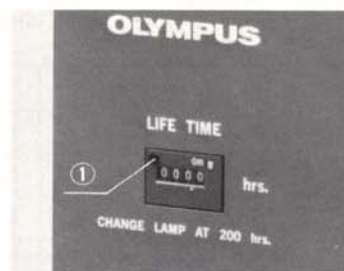

Fig. 9
- 4) After burner replacement, zero the life meter, pressing the reset button ① by means of a screwdriver. To avoid accidental manipulation of the reset button, lock it with the lock lever provided. (Fig. 9)